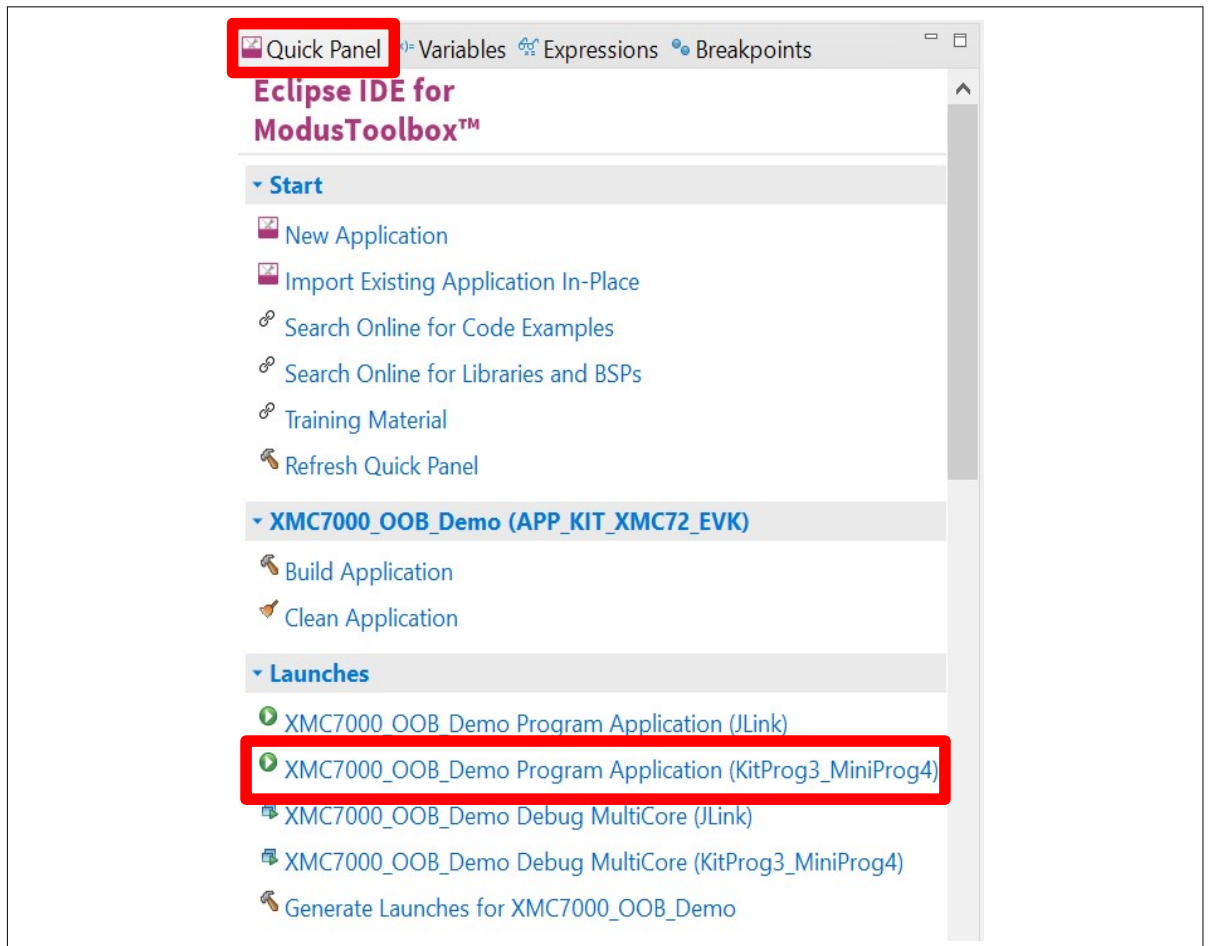

Figure 12 Programming in the ModusToolbox™ software
4. To build and program a XMC7200D application, in the Project Explorer, select **<App_Name>** project. In the Quick Panel, scroll to the Launches section and click the **<App_Name> Program (KitProg3_MiniProg4)** configuration as shown in Figure 12